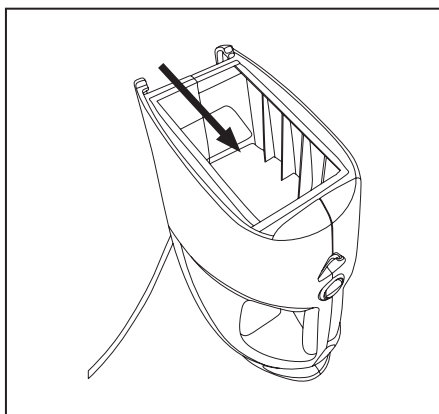

Fig. 15
- Place the new charcoal filter in the back wall of the vacuum. It should fit snugly against the inside wall of the vacuum (Fig. 15).